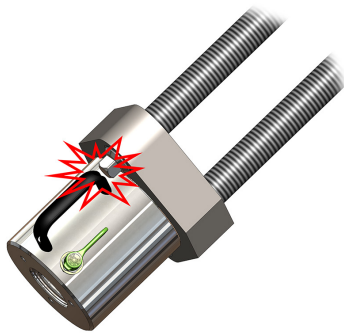
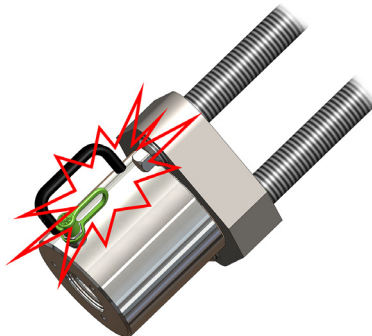
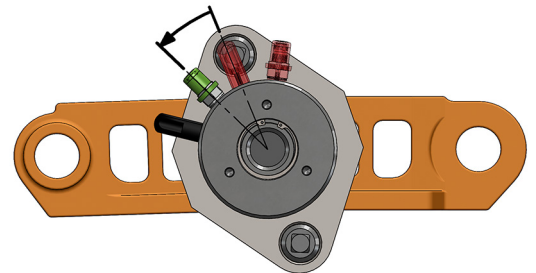

fig. 12
fig. 13
fig. 14
5. Make sure that the handle (fig. 12) or the quick coupling (fig. 13) does not align with any of the rods. If this happens, turn the cylinder back counter clockwise from the stop until the positioning enables the cylinder to move along the rods without the handle or quick coupling hitting the rods, fig. 14.